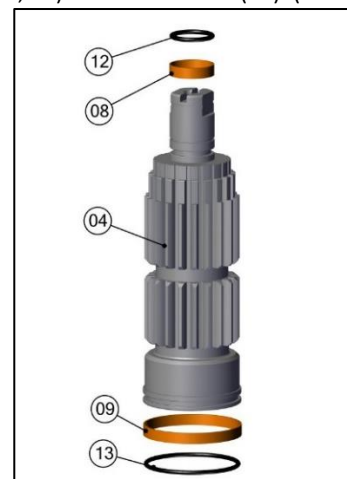

Fig No. 22
- a) Install top & bottom Pinion O rings (12, 13) and Guide Bands (08, 09) on to the Pinion (04). (refer fig. no.22)